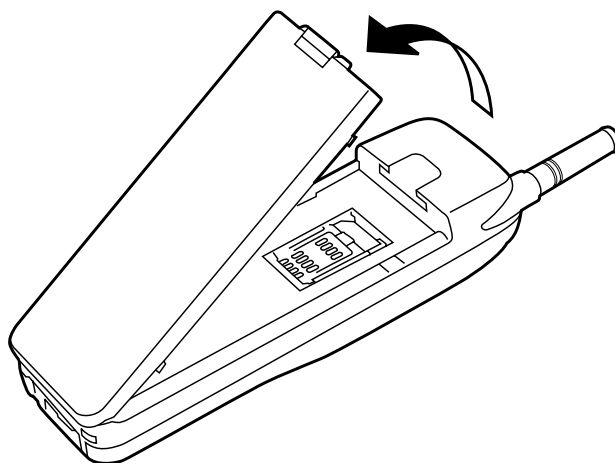

Figure 1: Battery removal
- Figure 1 Press the release clip then tilt up as shown to remove the battery from the telephone